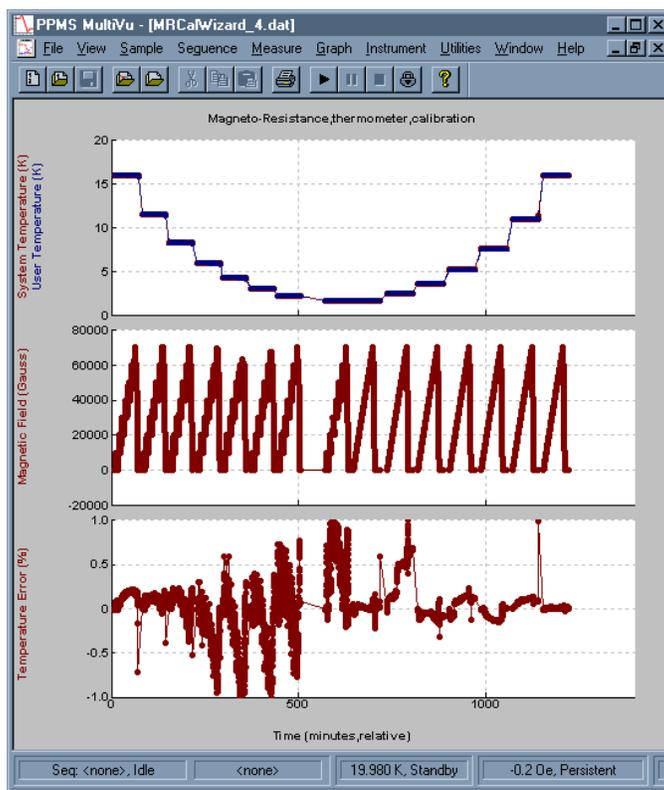
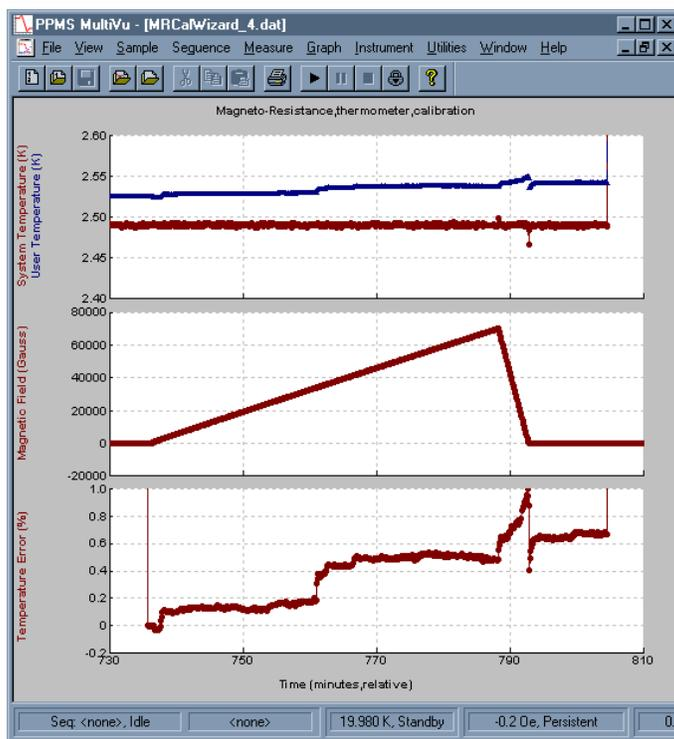

Figure 2: Example of the wizard's data file
Figure 3: A closer look at System Temperature/User Temperature from Figure 1
After a successful run, the data file should look like the example in Figure 2.
Notes about Figure 2 and Figure 3
- Figure 3 zoomed in on the verification at 2.5K on the System Temperature/User Temperature shown in Figure 1. You can see that the temperature error failed to come back to zero after the field was ramped back down to zero. The effect of Eddy currents heating had time to dissipate. The step-like nature of those changes also indicates some real temperature changes as temperature corrections are smoothly introduced.